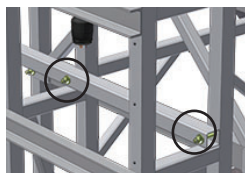

fig. 1.47
- 1- Insert the horizontal power cord support through the car structure and secure it to the vertical tubes with bolt assemblies, as shown in fig. 1.47.